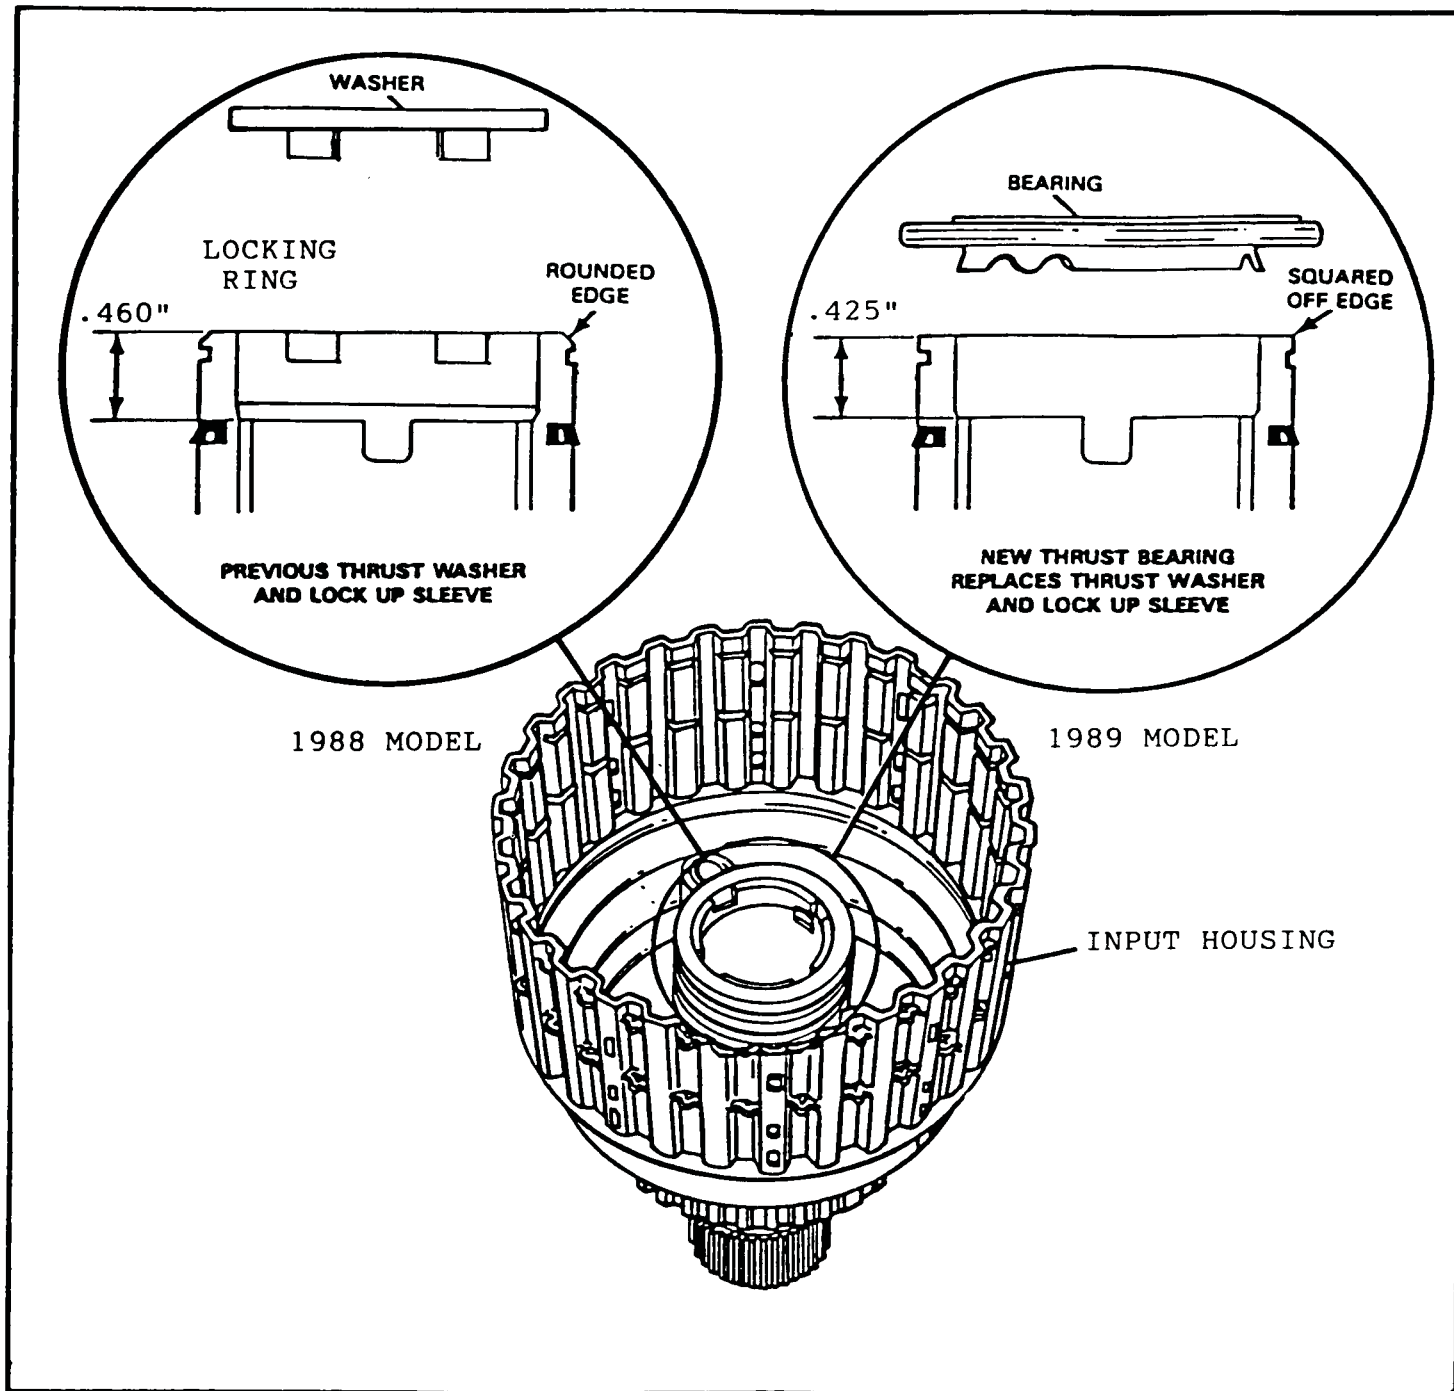

Figure 90
- (1) Input Housing - Surface on the input housing where the new bearing assembly rides, has been reduced by .035" to accommodate the increased thickness of the new bearing (See Figure 90).
- (2) "Top Hat" Thrust Washer - Eliminated (See Figure 90).
- (3) Lock Up Sleeve - The lock up sleeve is no longer needed and has been eliminated (See Figure 90).